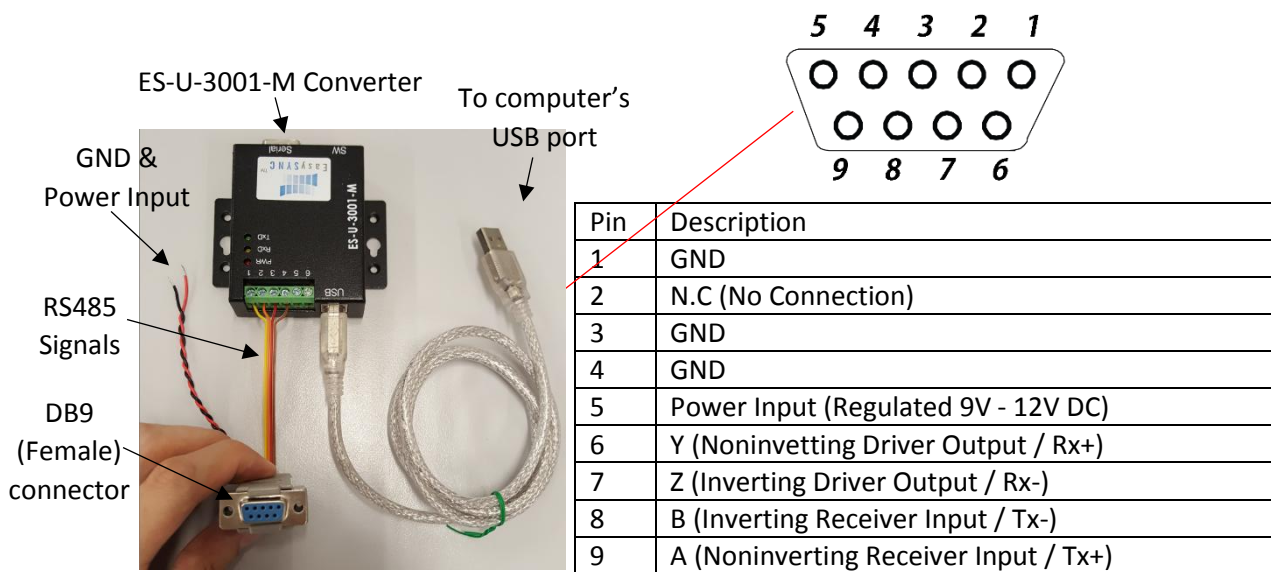

Figure 7. Constructed custom cable and pinout of the DB9 (Female) connector
1. Prepare the custom cable. The constructed custom cable and the pinout of the DB9 (Female) connector is shown in Figure 7.